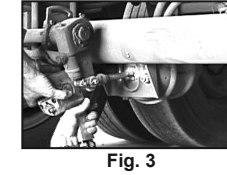

Fig. 3
Step 4. Being certain brakes are fully released, loosen both brake chamber mounting stud nuts by backing them off several threads without completely removing nuts. (**Fig. 3**) *If threads are rusted, apply penetrating oil first*